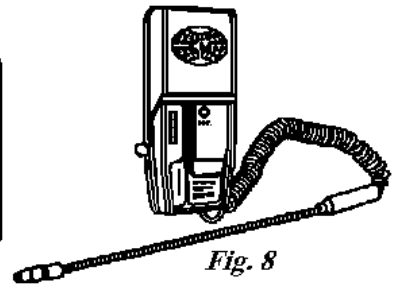

*Fig. 6*
**Process Tube Adaptor Kit** – This kit allows the attachment of hand valves to various sizes of exposed tubing ends during back flushing, charging, and/or evacuating a sealed system. (Fig. 6)